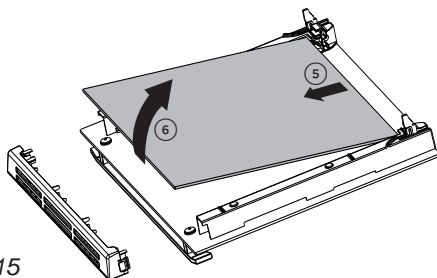

Fig. 8.15
- Gently lift and pull out the middle pane of glass by releasing it from the bottom retaining notches (fig. 8.15).